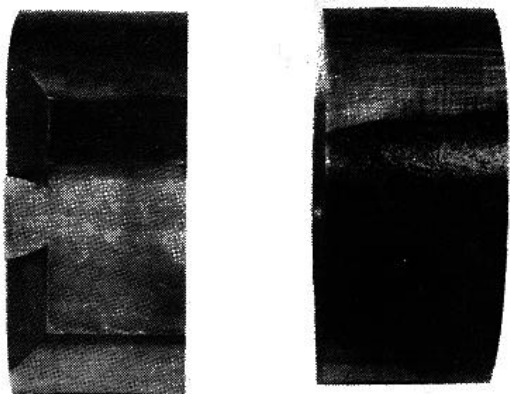

FIGURE 9-87.
- d. Inspect the body and bearing for irregularities of the bore caused by bearing attempting to turn or signs of working. (see figure 9-87).